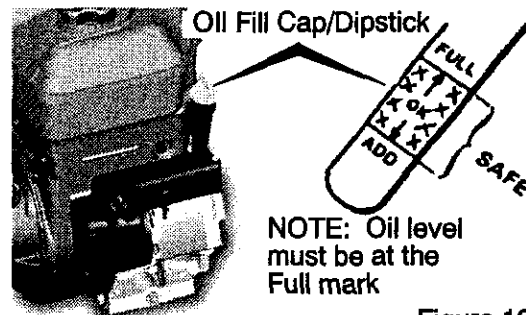

Figure 13
- If necessary, add oil until the oil reaches the **FULL** mark on the oil fill cap/dipstick (see Figure 13). Do not add too much oil.